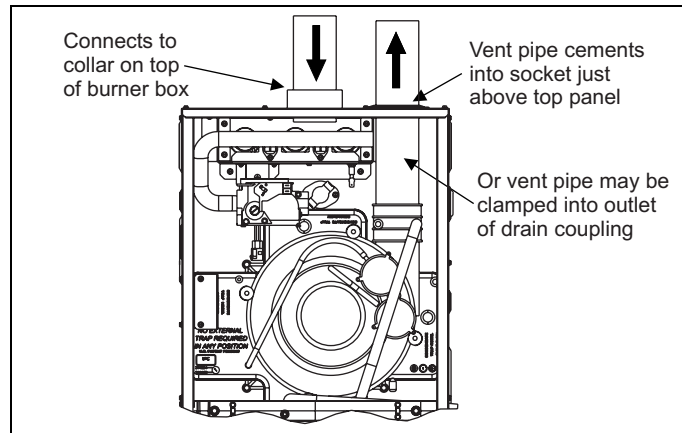

FIGURE 36: Direct Vent Air Intake Connection and Vent Connection
2. **AMBIENT COMBUSTION AIR:** Combustion air is supplied from the area surrounding the furnace through openings in the furnace casing. The combustion air and the vent pipes are not terminated in the same atmospheric zone. Refer to Figure 21 for vent terminations. Refer to "Ambient Combustion Air Supply" for proper installation. Refer to Figure 36.